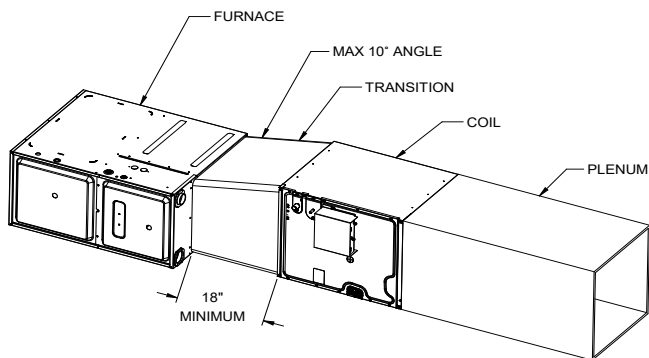

Figure 5B
3. Optionally a transition duct can be used to attach the coil with furnace, if z-bracket is not preferred to be used (see Figure 5B).